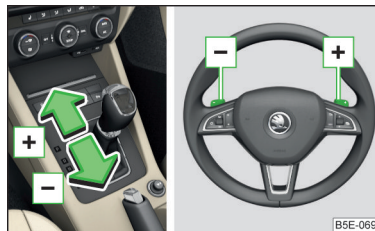

Fig. 247
- To **change gear**, pull one of the rocker switches   briefly towards the steering wheel » Fig. 247.
- To **shift up**, tap the selector lever forwards  or pull the rocker switch  briefly towards the steering wheel » Fig. 247.
- To **shift down**, tap the selector lever backwards  or pull the rocker switch  briefly towards the steering wheel » Fig. 247.